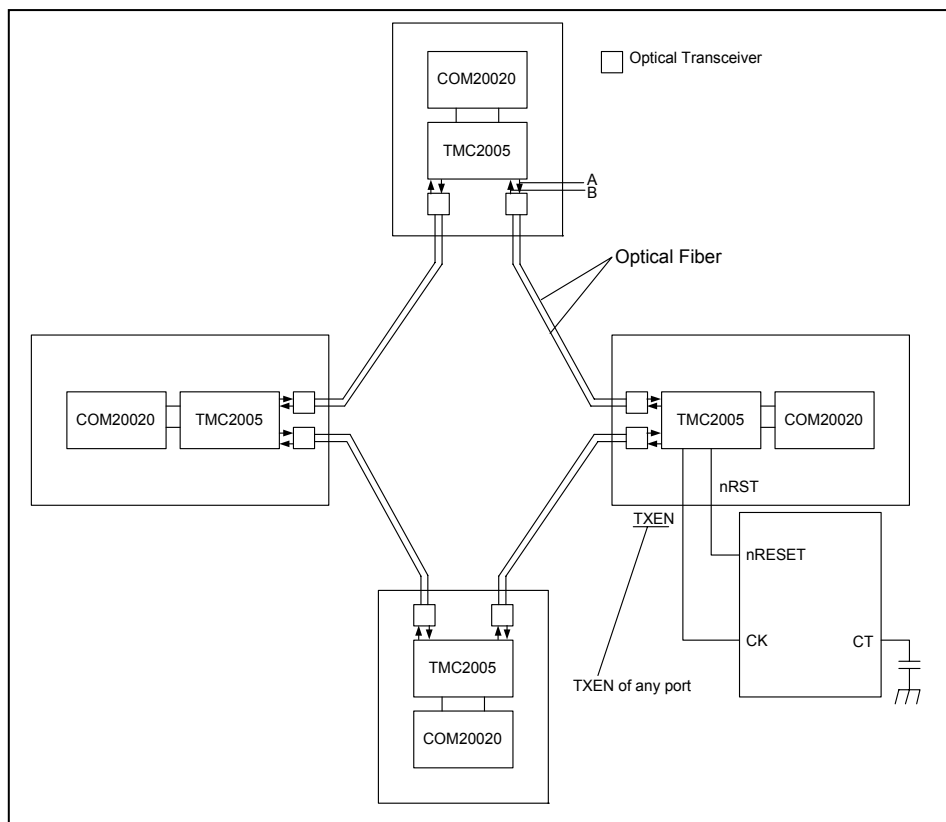

FIGURE 16 - RING CONFIGURATION
The reliability of the network can be improved by connecting every node in a ring, because the communication is maintained through the reverse route even if the cable is cut at a point. However ARCNET controller alone can not support ring, because ARCNET is a half-duplex communication system. Using HUBs makes possible for ARCNET to built a ring network as in Fig.16. This configuration is available only for using fiber optics. (Refer to the application note for details.)
- A noise occurs only at "A" point in Figure 16.
- Any noise occurs at "A" and "B" points in Figure 16 at the same time.